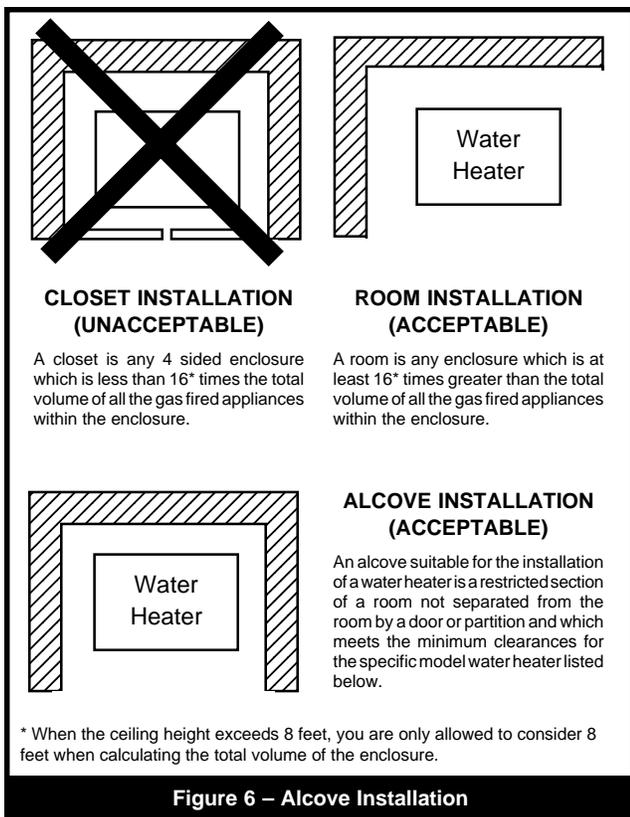

Figure 6 – Alcove Installation
1. Locate the water heater to provide adequate clearance for inspection and service on all sides. See **Table I**. We recommend minimums of 24" from front (for proper access to and service of controls) and 18" at water connection end. For alcove installation, see **Figure 6**.